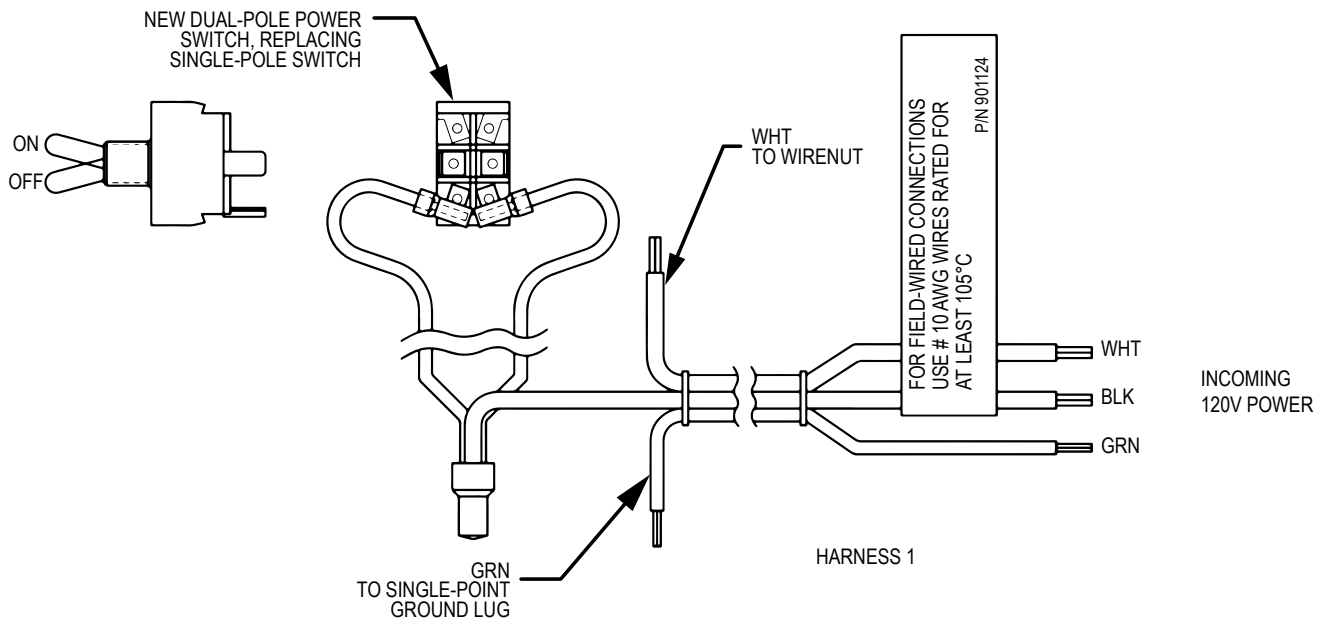

Figure 5. Harness 1, Models 0514-1826
7. Inside the J-box, replace the main power switch with the new 2-pole switch provided. Connect the wires of HARNESS 1, which connects incoming power to the COM side of the 2-pole switch, per **Figure 5**.
7. Inside the J-box, replace the main power switch with the new 2-pole switch provided. HARNESS 1 connects incoming power to the COM side of the 2-pole switch. Use the HARNESS 1 illustration, **Figure 5** as a reference.